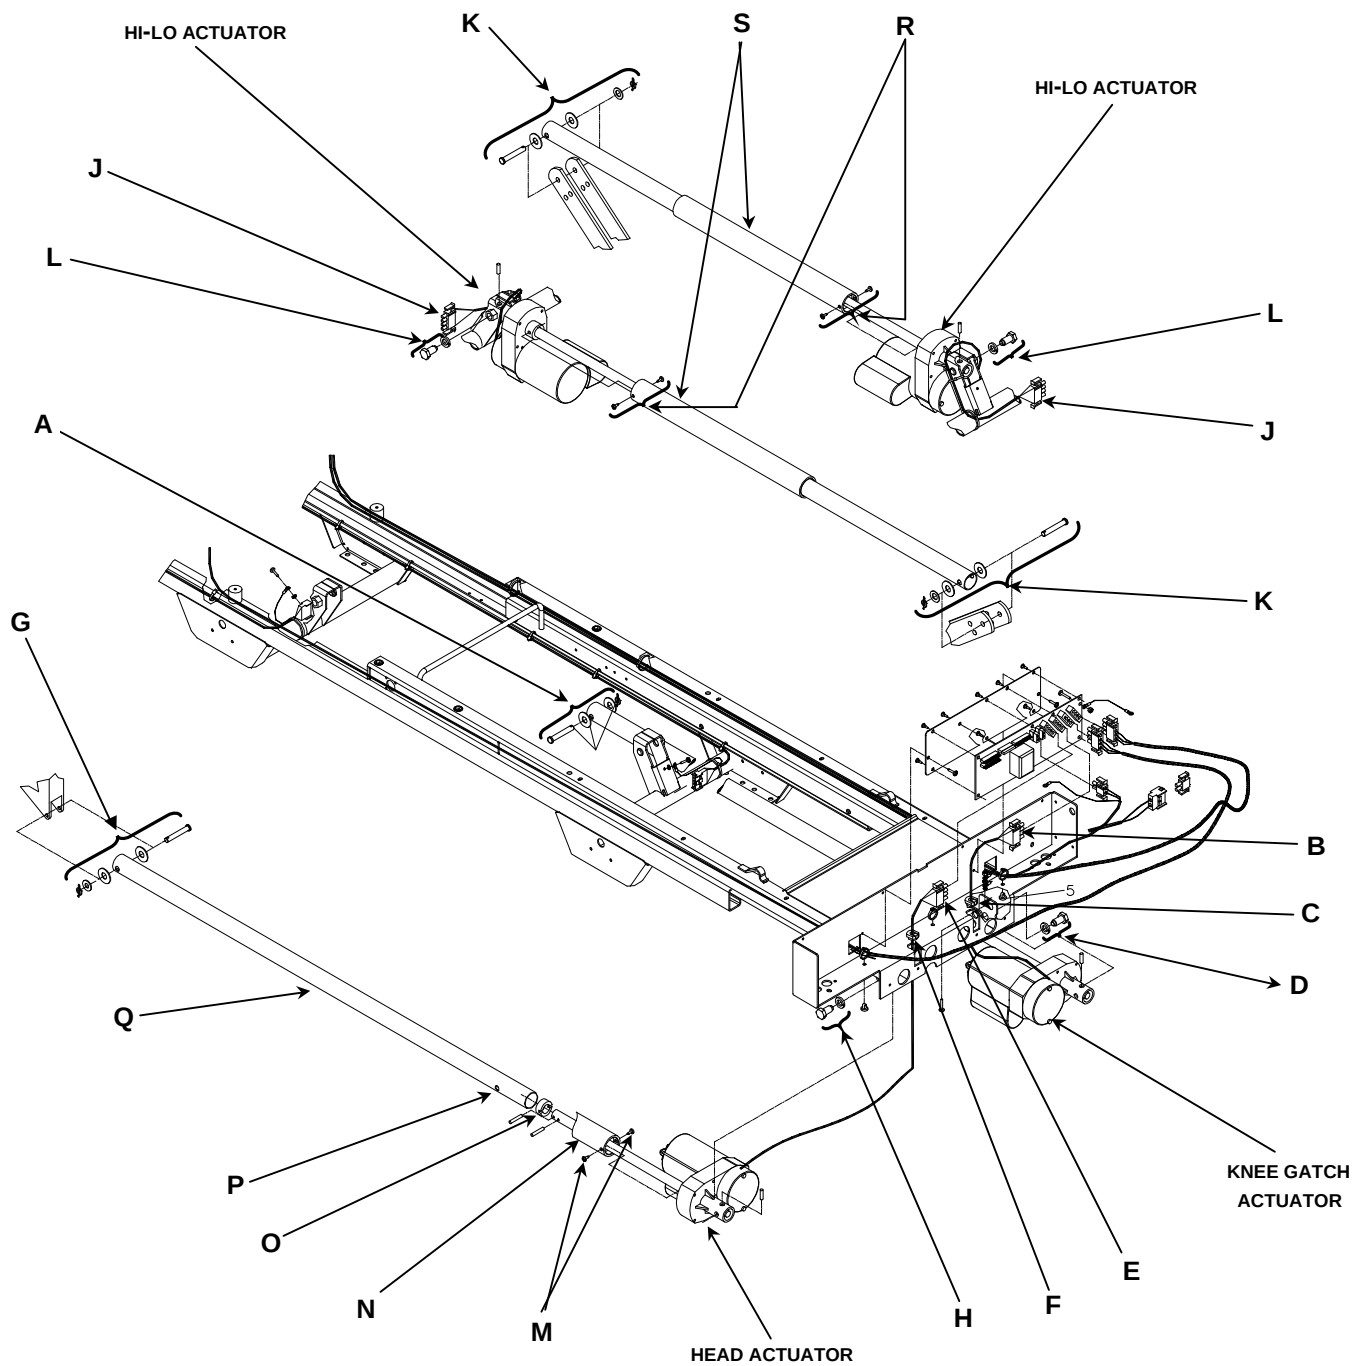

Figure 4.14
4. Remove the Rue ring/washer/nylon washers(2)/clevis pin (**A**, fig. 4.14, page 44) hooking up the Knee Gatch actuator tube to the thigh section lever arm.
8. Remove the Rue ring/washer/nylon washers(2)/clevis pin (**G**, fig. 4.14, page 44) hooking up the head actuator tube to the head section lever arms.
Unless otherwise stated, all reference points of each actuator replacement procedure will refer to figure 4.14 above.
Unless otherwise stated, refer to fig. 4.14, page 45 for illustration of the reference points mentioned in this section.
5. Remove the two screws (**M**) holding the plastic dust tubes (**N**) of the head and Knee Gatch actuators (the two screws and the dust tube of the Knee Gatch are not illustrated on fig. 4.14) and remove dust covers to uncover the actuator screws.